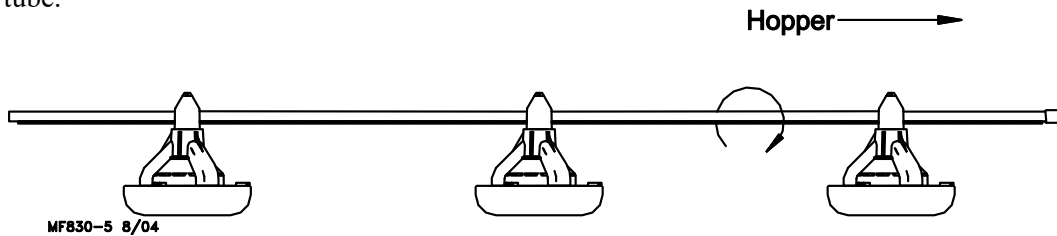

Figure 29. Assemble Feeders on Tubes
2. Rotate the auger tubes so that the seam is down, this holds the Pan Assemblies in place on the tubes, see **figure 29.**